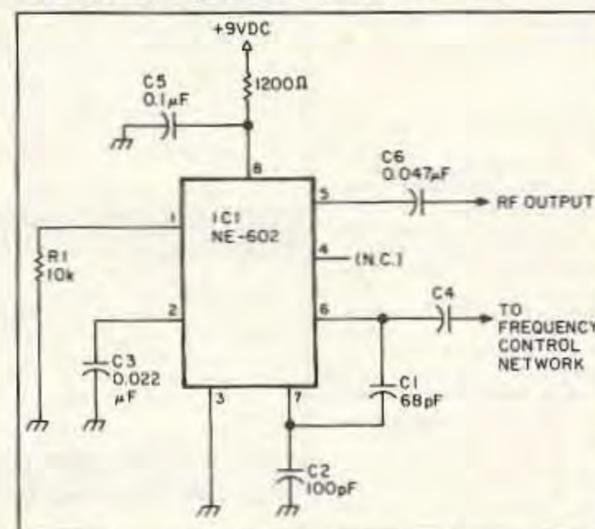
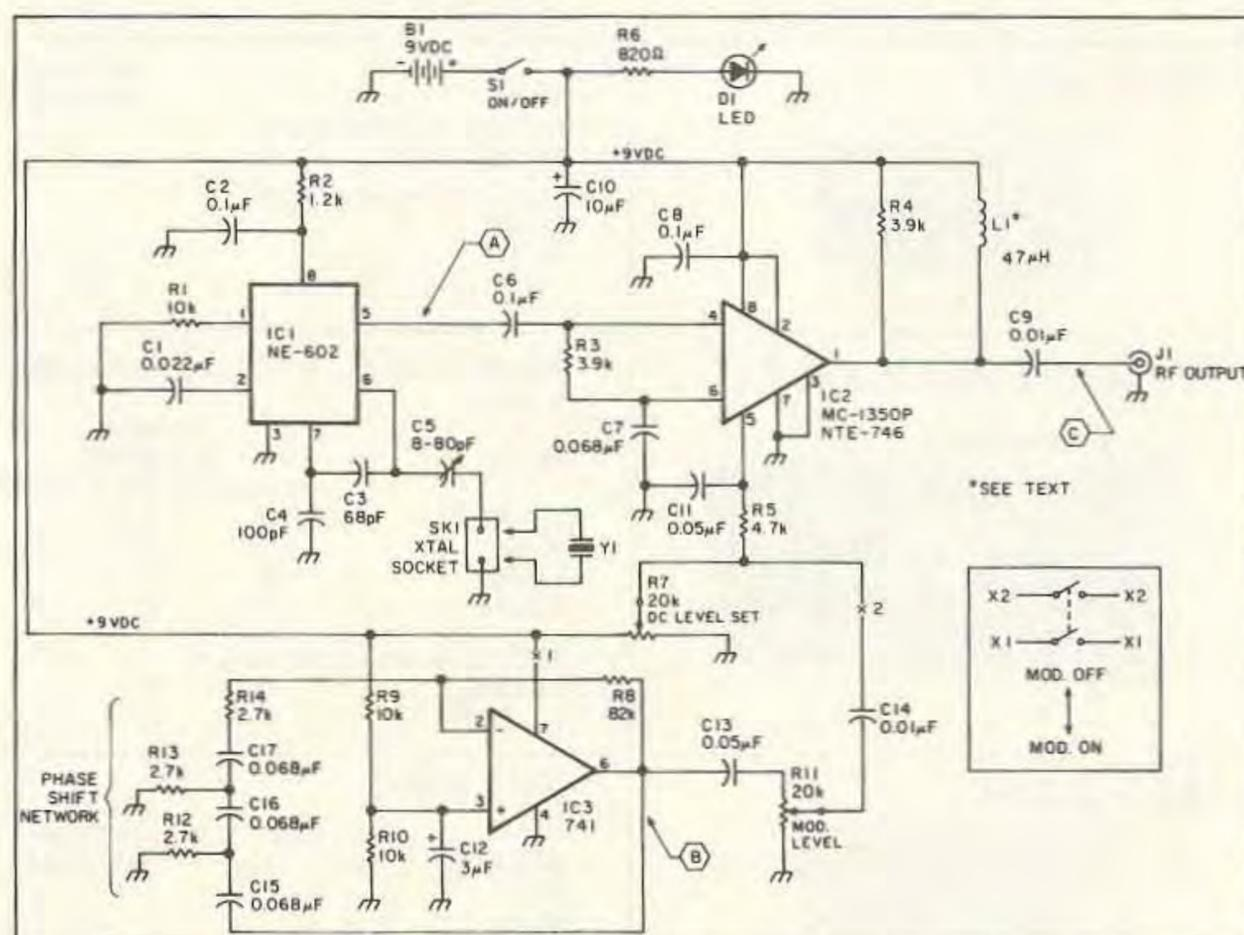

Figure 2. Generic NE-602 oscillator circuit.
Figure 4. Circuit diagram for the signal generator.
Figure 2 shows the basic configuration of the NE-602 in oscillator mode. Input-A is grounded through a 10k ohm resistor, while Input-B is bypassed to ground for RF signals through a capacitor (C3). The value of this capacitor is dependent on the operating frequency. The value shown will work nicely in the HF and low VHF range, but for lower
An example of the output signal from the circuit of Figure 2 is shown in Photo A. This signal is from a 10 MHz crystal oscillator (see below), and appeared on both pins 4 and 5. It had an amplitude of about 180 mV, which is
The rest of the oscillator circuit consists of the frequency control network (not shown in Figure 2). This network can be a piezoelectrical quartz crystal resonator, a ceramic crystal resonator, or an inductor-capacitor (LC) network. Figure 3 shows several possible variations on the frequency control network.
Photo A. Oscilloscope photo of the waveform from the output signal at pin no. 5 (see the circuit shown in Figure 2).
that it be amplitude-modulated at some frequency between 300 and 1500 Hz (the exact AF frequency was not important). The final circuit is shown in Figure 4.
where R = R12 = R13 = R14, and C = C15 = C16 = C17. With the values shown in Figure 4, the circuit oscillates at a frequency just under 400 Hz. The feedback resistor (R8)
If you want to be able to turn the modulation on and off, then insert the switch shown in the inset to Figure 4 at the points marked "X1" and "X2."
As the old proverb says, the proof of the pudding is in the eating. Photos B, C and D show oscilloscope photos of the waveforms in this circuit. The 10 MHz RF carrier is shown in Photo B (although at a different time base than Figure 2); this signal appears at point "A" in Figure 4. The audio modulating signal appears at point "B," and is shown in Photo C. Finally, the modulated RF signal from the output of IC2 (point "C") is shown in Photo D. **73**